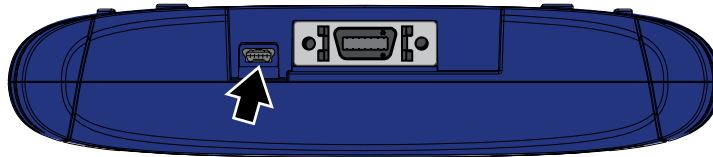

Figure 4-7
- **MICROSCAN III**—type mini A USB port on top of the Diagnostic Tool (Figure 4-7).